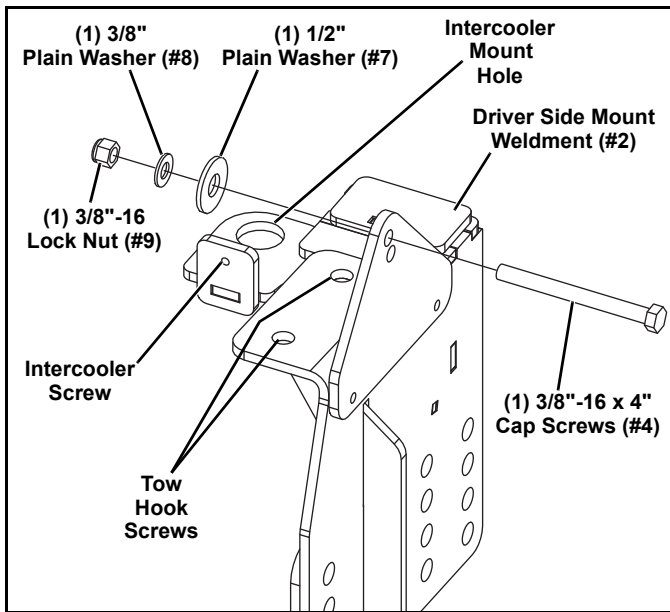

Figure 1-3
3. Align the Driver Side Mount Weldment (#2) to the Driver side frame rail. Be sure weldment fits around the intercooler mount. Secure with (2) tow hook screws, (1) intercooler screw, (1) 3/8"-16 x 4" Cap Screw (#4), (1) 1/2" Plain Washer (#7), (1) 3/8" Plain Washer (#8), (1) 3/8"-16 Locknut (#9). Be sure not to crush the frame rail when torquing the 3/8"-16 hardware (See Figure 1-3).